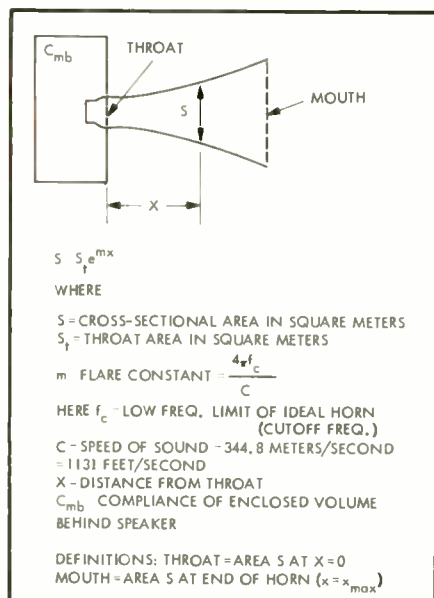
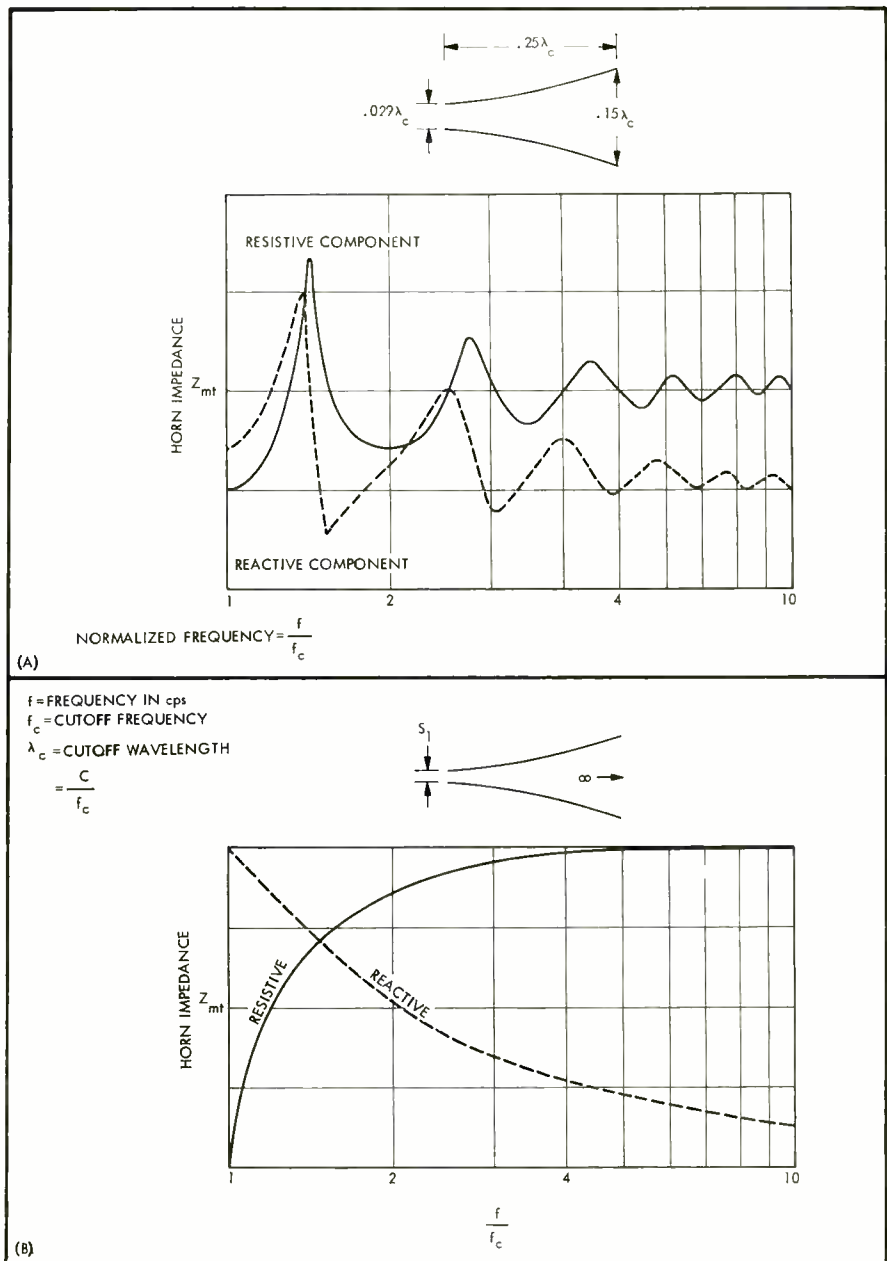

Fig. 1. Exponential horn speaker system.
Fig. 4. Horn impedance as a function of frequency and size.
A simple exponential horn speaker system is shown in Fig. 1. All the necessary ingredients for building one are listed. Simply choose a value for S_t and cutoff frequency f_c and S is determined by X . However, for a predetermined level of performance choosing *exactly* what S_t , *exactly* what m and *exactly* what X_{max} should be used makes the design a little
To show clearly the effect of these ripples I have included them graphically in (A) of Fig. 4, and the impedance of an infinite horn in (B) of Fig. 4.² For purposes of comparison both of these are normalized to unity and are a plot of the impedance a horn presents at its throat. The sound output also varies in much the same way. It would appear that little would be gained by making the horn shorter than that indicated in (A) of Fig. 4 since efficient response would stop further above cutoff. To compensate, the cutoff frequency would have to be moved further down, thereby making the horn bigger again since λ_c increases.
3-db peaks in the response may not sound like much and the designer may be happy to settle for 6 db, or even 12 db if the horn can be made smaller. For instance, this means that the mouth diameter can be smaller than $0.15 \lambda_c$. However, this decision also tends to move the beginning of maximum efficiency further up and necessitates choosing a proportionally lower cutoff frequency. There is some tradeoff possible between horn size and response peaks, or horn size and the number of speakers used (throat diameter), but using the dimensions outlined in Fig. 4 (A) will result in a good conservative design. On the other hand, if every consideration given above were violated and a horn was built that was really short and sweet, then you would find that the cutoff frequency could be chosen somewhat above the lowest frequency of interest. This is because any
Using this as our criterion, suppose we now get our horn down to a matter of feet and inches. If f_c is chosen as 30 cps, then from Fig. 4(A) response will begin about 10 per cent higher, or 33 cps. Also, $\lambda_c = 37.7$ ft. and the horn length X_{max} becomes 9.4 ft., the mouth area 25 sq. ft. and the throat area 0.94 sq. ft. Using this as a guide we can proceed with laying out the horn. For the JBL speaker used in the previous example, the throat area S_t was calculated as 0.0173 square meters = 0.186 sq. ft. If we were to use four of these speakers the necessary throat area would become 0.744 sq. ft. This is close to the desired 0.94 sq. ft. Now, Taking the horn equation
We are still not quite through with our design, however. One thing that it is always necessary to determine is the size of the air chamber enclosing the rear of the speakers. This chamber acts like a spring or capacitor in series with the speaker and was shown in Fig. 1 as C_{mb} . The net effect is to raise the resonant frequency of the speaker by some predetermined amount, and this is very good and helpful as we shall see. In Fig. 4(B), showing horn impedances, the reactive component increases with lowering frequency as the resistive component goes to zero. Well, it turns out that this reactance actually looks like a *negative*